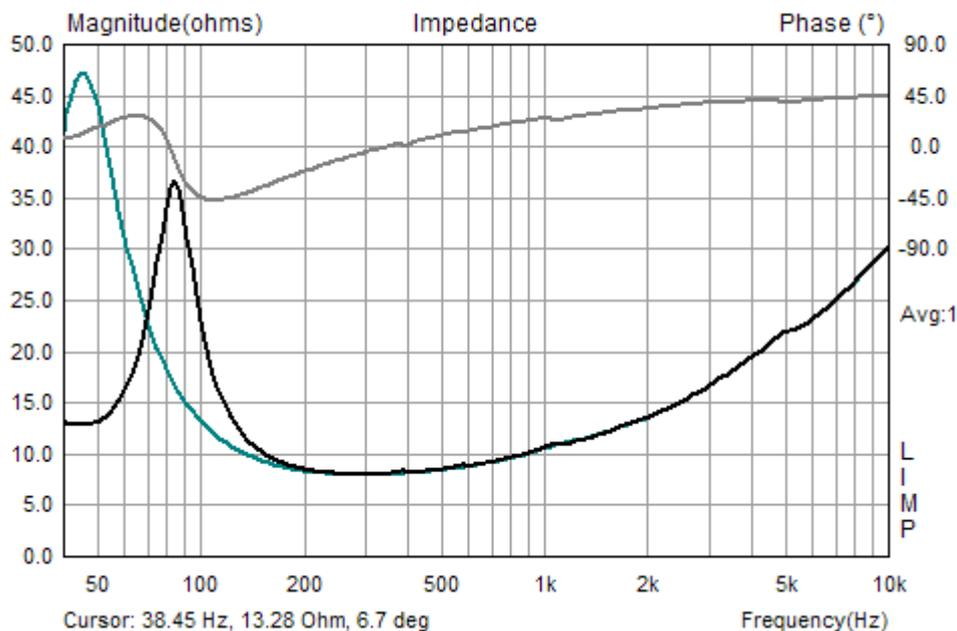

Figure 5.7 Impedance curves (the one with higher resonance frequency is obtained by mounting the loudspeaker in a closed box)
3. one of the curves (1 or 2) must be set as an overlay graph (as in Fig. 5.7),